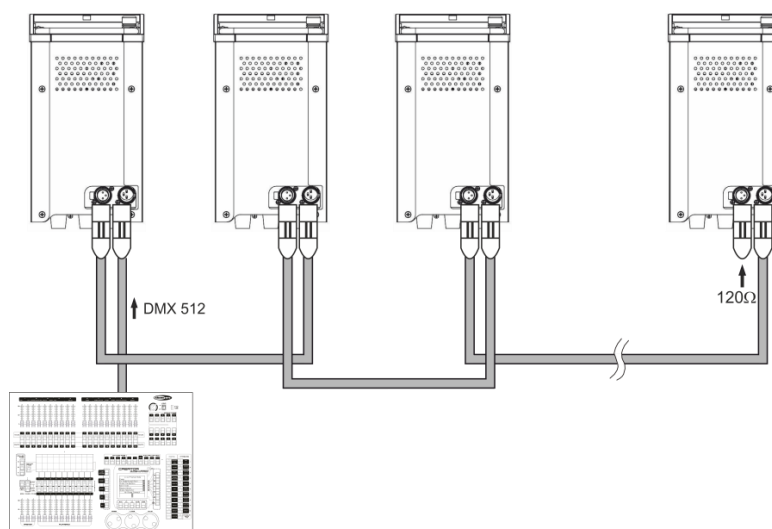

Fig. 05
03) Link the units as shown in (Fig. 05), connect a DMX signal cable from the first unit's DMX "out" socket